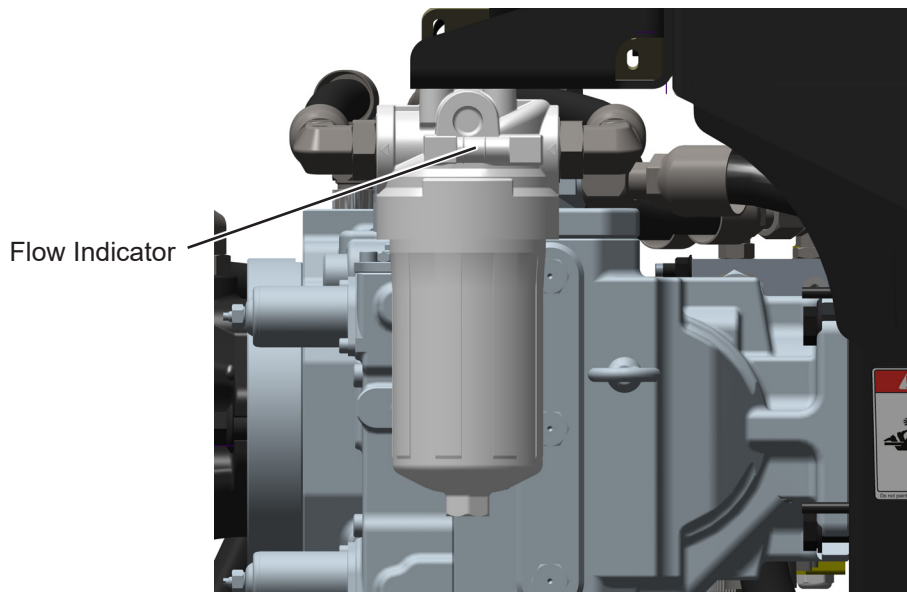

Figure 9
37. Monitor filter element condition using flow indicator on side of filter head. See Figure 9. Remove and replace filter element (A001E072) when indicated by the flow indicator.